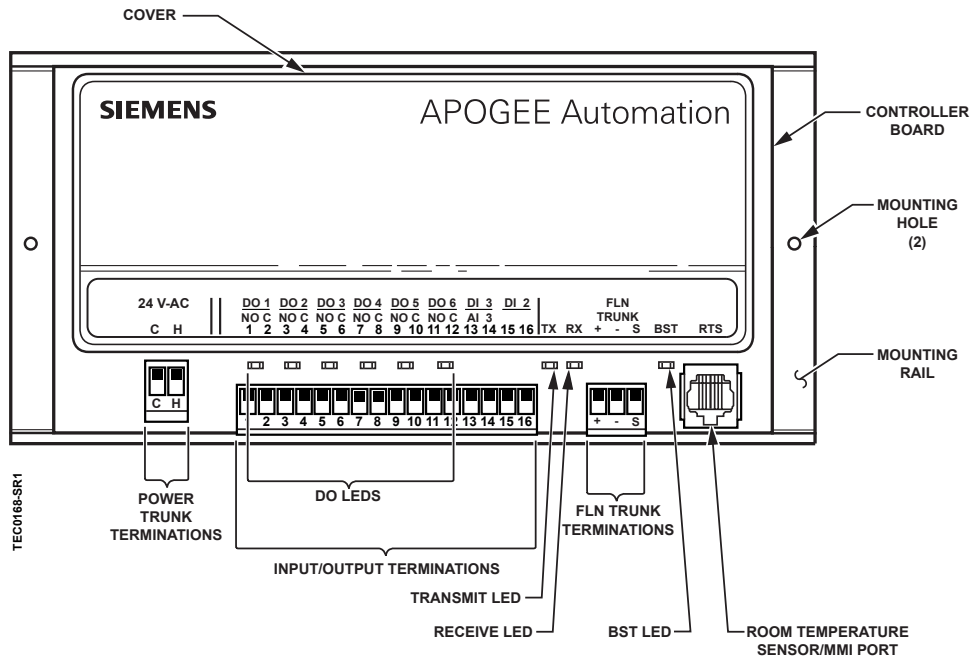

Figure 1. Smoke Control Listed Heat Pump Controller — Single Stage.
1. Secure the mounting rail (Figure 1) in the controller's desired location.
6. Plug the room temperature sensor cable into the RTS port (Figure 1).